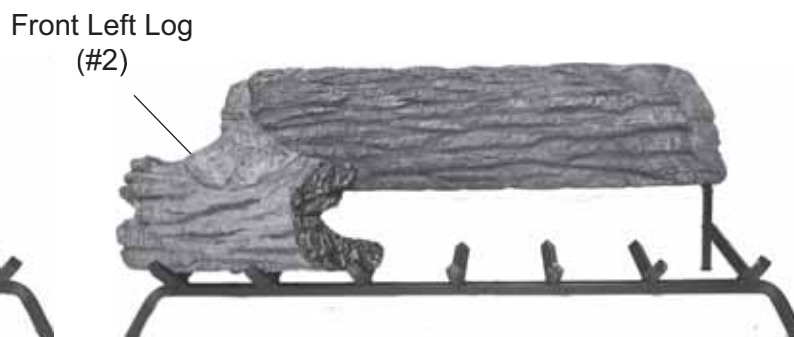

Figure 37 - Placing Front Left Log (#2)
3. Place front left log #2 in front of the plate and to the left. *See Figure 37.*